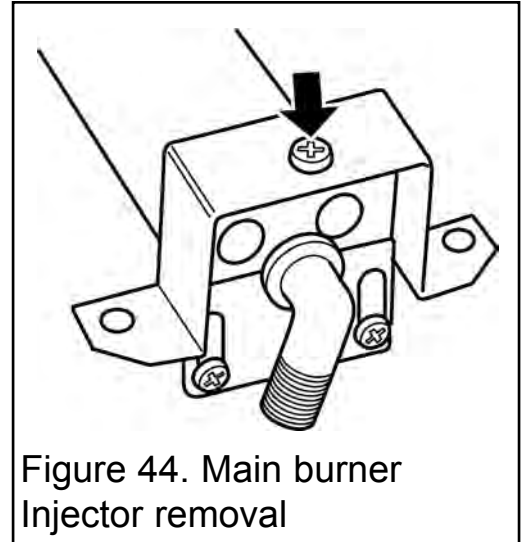

Figure 44. Main burner Injector removal
(See figure 44).
2. Remove the burner clamping screw (See figure 44)